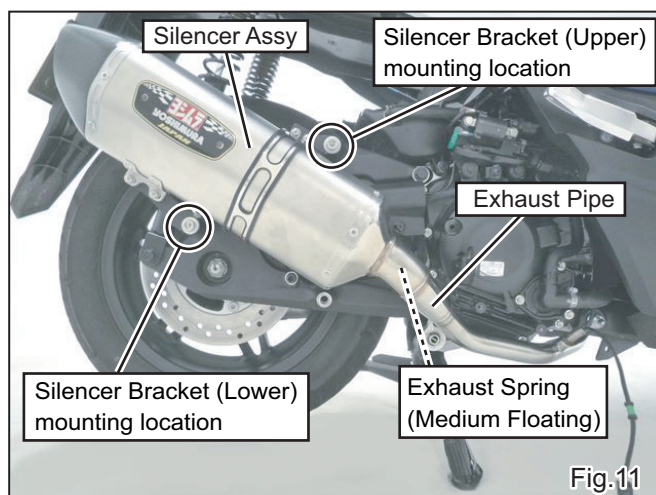

Fig.11
- 10) Mount Silencer Assy on Exhaust Pipe and fix Silencer Bracket (Lower) with Cap Bolt M10x35 P1.25 and Washer M10x22. Tighten bolt by hand only at this stage. Then install Exhaust Spring. (See Fig. 11, 12 & 13)
- 11) Mount Silencer Bracket (Upper) with Cap Bolt M10x35 P1.25 and Washer M10x22. Tighten bolt by hand only at this stage. (See Fig. 11 & 14)